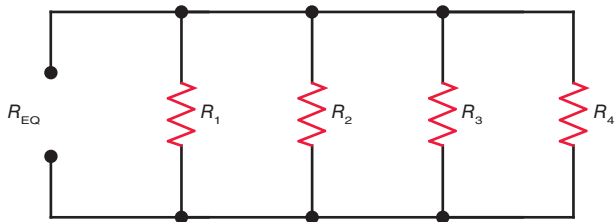

Figure 6-23
6.27 How much is R_{EQ} in Fig. 6-23 if $R_1 = 1.5\ \text{k}\Omega$, $R_2 = 1\ \text{k}\Omega$, $R_3 = 1.8\ \text{k}\Omega$, and $R_4 = 150\ \Omega$?
6.28 How much is R_{EQ} in Fig. 6-23 if $R_1 = R_2 = R_3 = R_4 = 2.2\ \text{k}\Omega$?